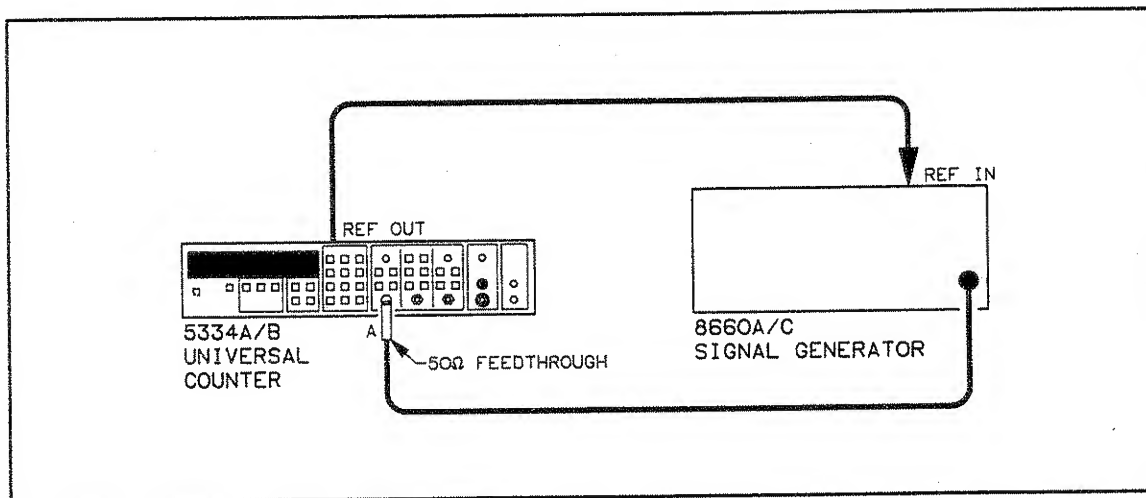

Figure 4-4. Channel A Frequency and Sensitivity Setup, 80 MHz-100 MHz
3. Connect the signal generator to the HP 5334A/B Input A using a 50 Ohm feedthrough connector as shown in *Figure 4-4*.